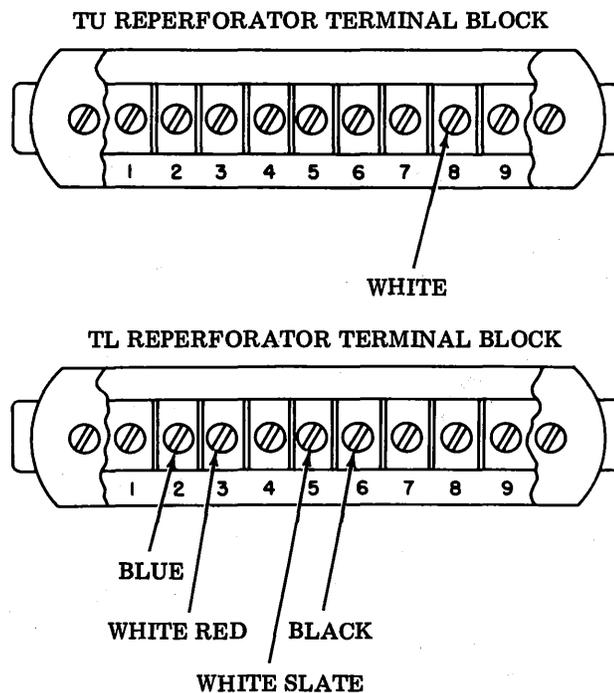

Figure 13 - Attachment of Tape Container Leads to Reperforator Terminal Blocks
- (a) Connect the tape container leads as shown in Figure 13. The leads originate from the tape container and terminate on the reperforator terminal blocks TU and TL.